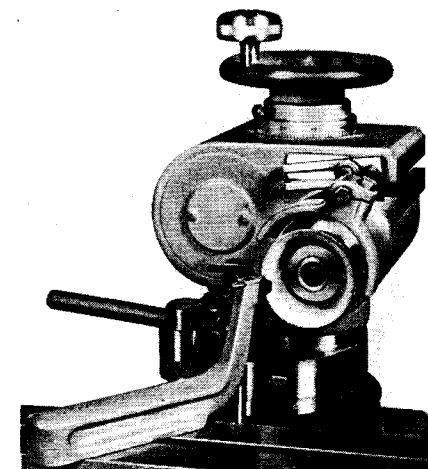

Figure 23A
**Centering Gage.** The centering gage (Figure 23A) is for the purpose of quickly aligning a cutter tooth with the tailstock and center of the grinding wheel spindle when setting up the machine. This is accomplished with the gage placed on top of the machine table.